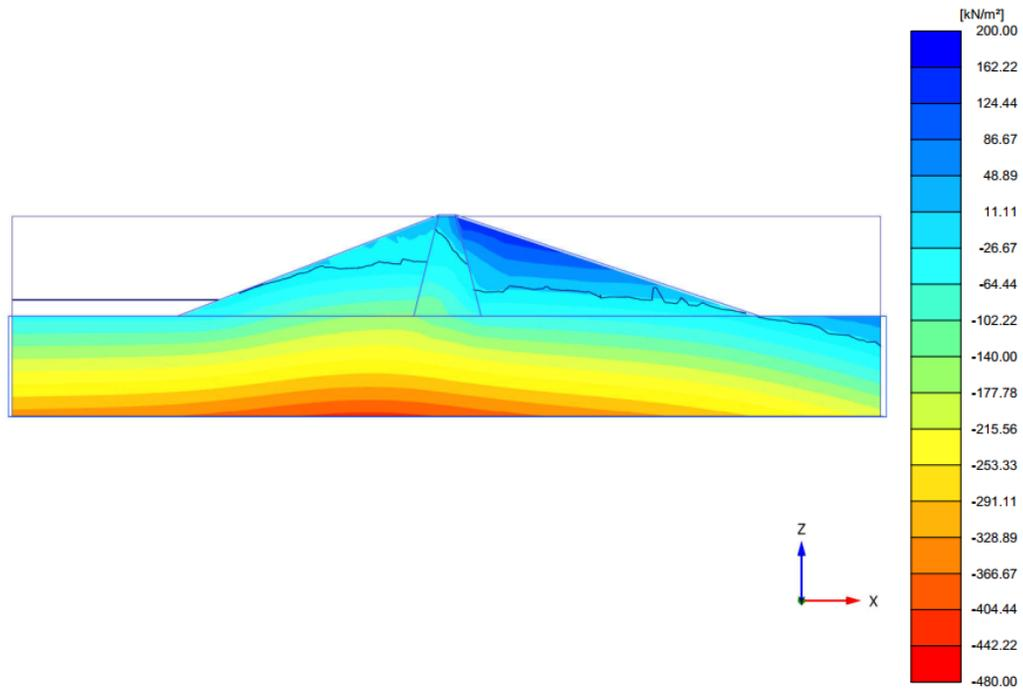

Figure 114: Pore water pressure distribution after slower drawdown (Phase_2)
- The situation after slow drawdown of the reservoir level - See Figure 114 (on page 142).